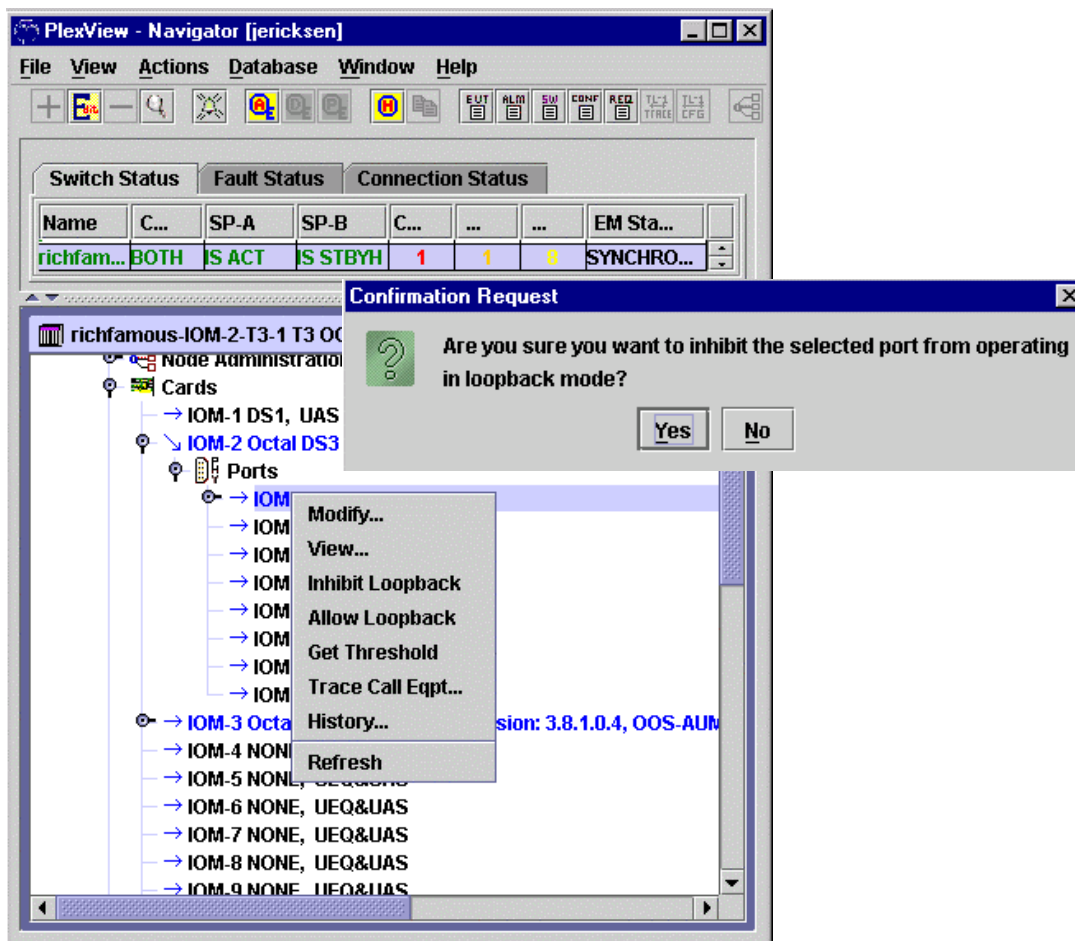

Figure 7. Inhibiting STS1 Loopbacks
16. To prevent remote STS-1 loopbacks, double-click the switch to select it for the main panel and then right-click the switch name. Click *Cards*, desired *IOM* and *Ports*. Right-click the desired port and select *Inhibit Loopback*. Click Yes in displayed frame to allow loopbacks. See Figure 7.